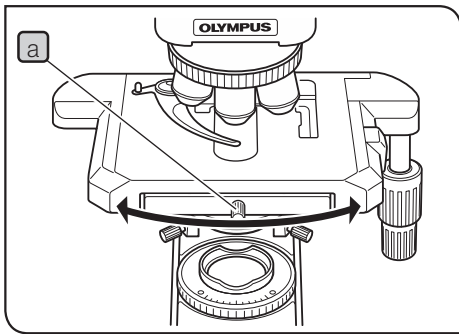

Fig.28
**4 Rotating the stage (Fig.28)**